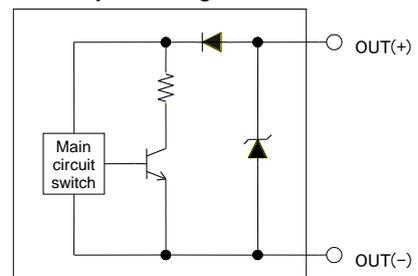

Fig.1
- *9: When no input current has been applied, an alarm is output. Fig. 1 shows an internal alarm circuit of the IP8001-0*2 (Non explosion protected construction).